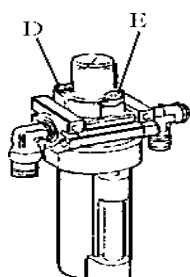

Fig 29
Unscrew with hex wrench (E). Based on connection of compressed air, first to tread Rotation Pedal 5-6 times, and then check whether oil in Oil Fog Maker drops down a drip of oil. For continuous operation, tread twice every time, drop down a drip of oil, and otherwise adjust the screw (D) that controlled oil enters with minus screwdriver. (Fig 29)